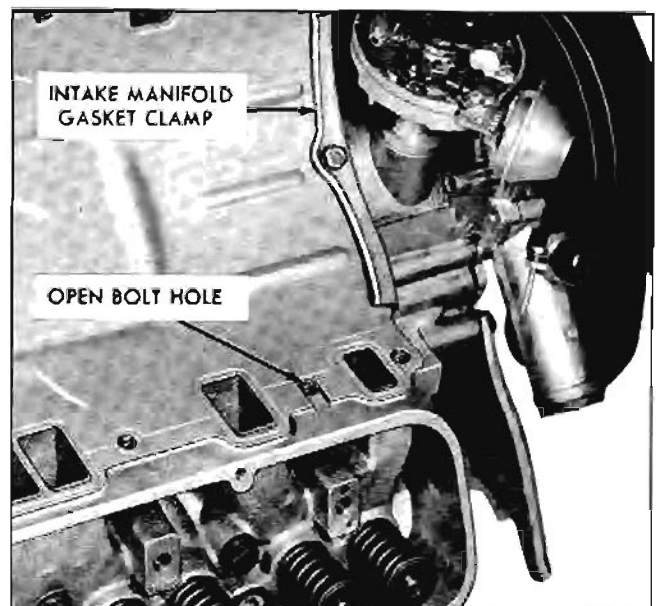

Fig. 6-78 Intake Manifold Gasket
2. Position manifold gasket in position so open bolt hole is located as shown in Fig. 6-78.